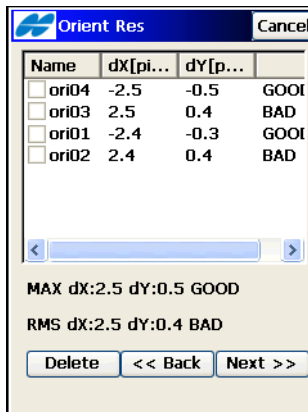

Figure 8-63. Orientation Results
6. View the image orientation results on the ***Orient Res*** screen (Figure 8-63). The results for each Orientation Point is displayed as  $dX$  and  $dY$  in image pixels.